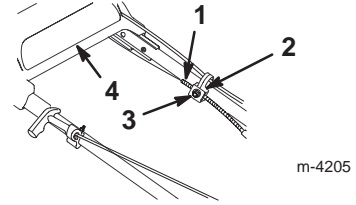

Figure 27
3. Loosen the cable support nut (Fig. 27).
5. With the upper handle pushed back as far as possible and while holding the drive bracket down, pull the cable jacket down (toward the lawn mower) until there is no slack in the cable (Fig. 27).
6. Tighten the nut on the cable support (Fig. 27).